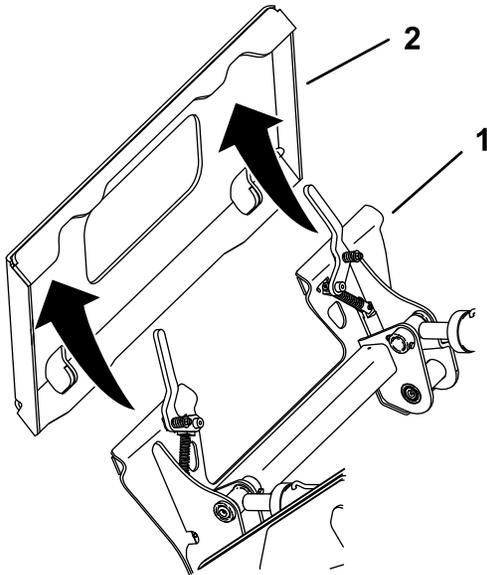

Figure 31
5. Position the mount plate into the upper lip of the attachment receiver plate (Figure 31).